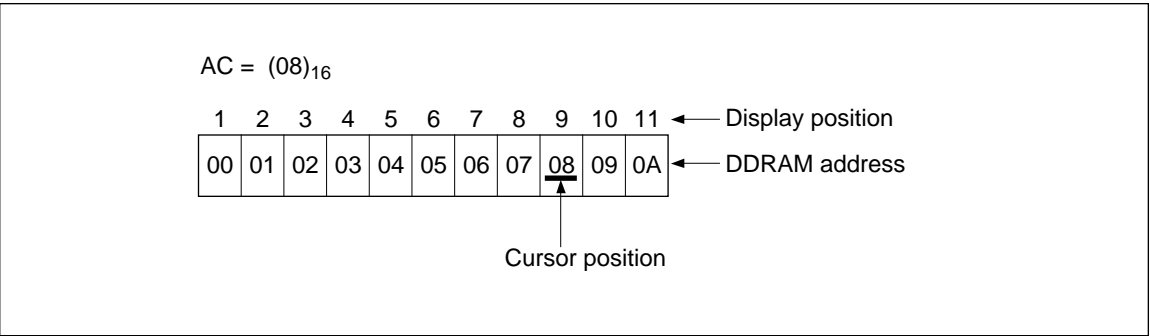

Figure 9 Cursor/Blink Display Example
For example (figure 9), when the address counter is (08)H, a cursor is displayed at a position corresponding to DDRAM address (08)H.